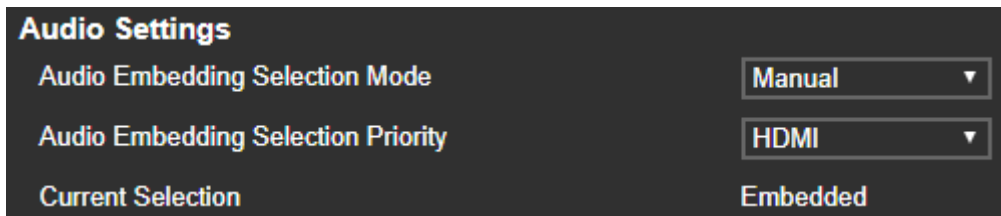

Figure 10: TP-594Txr Video and Audio Page – HDMI Audio to Receiver Settings
4. Under Audio Settings (Figure 10):